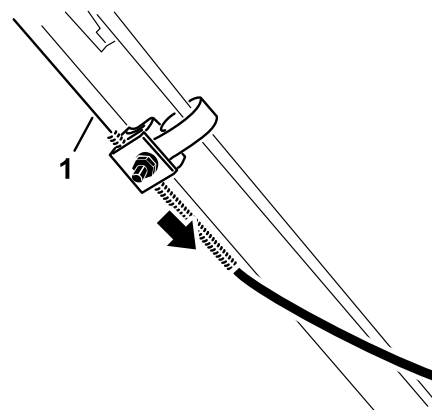

Figure 27
6. Pull the cable jacket down (toward the lawn mower) to remove all the slack in the cable (Figure 27).